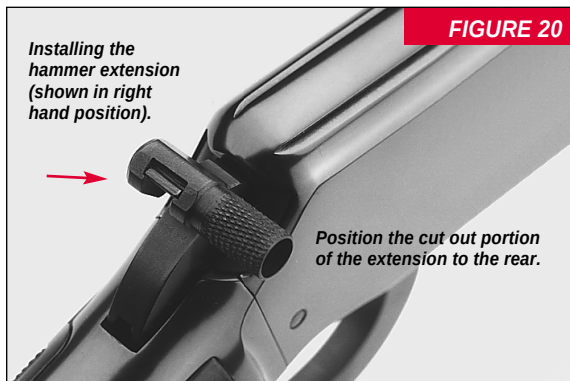

FIGURE 20
2. Slide the hammer extension over the end of the hammer spur. The notch in the mount has an internal rail that guides the extension into place. The cut out portion of the extension goes to the rear (Figure 20)